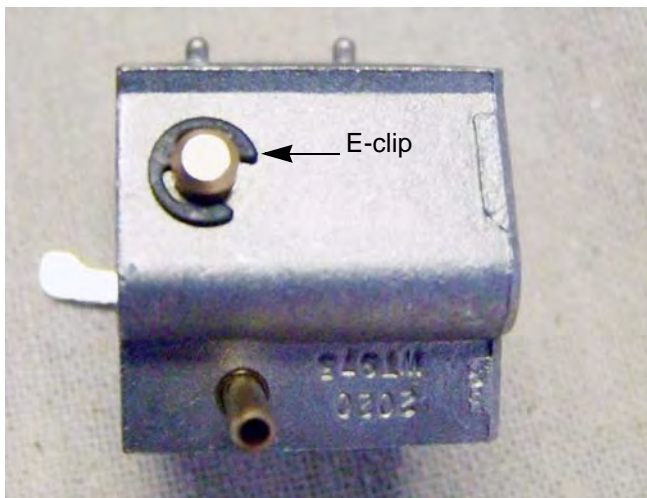

Figure 5.22
12. Remove the throttle shaft E-clip. See Figure 5.22.